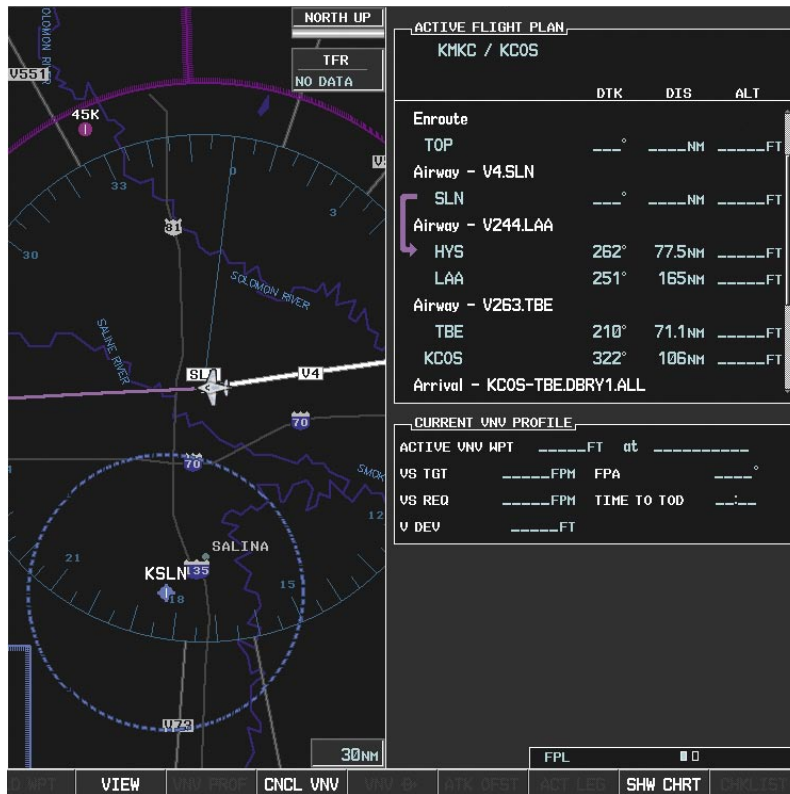

Figure 5-104 V244 Now Active Leg
- 9) As seen in Figure 5-104, V244 is now the active flight plan leg.